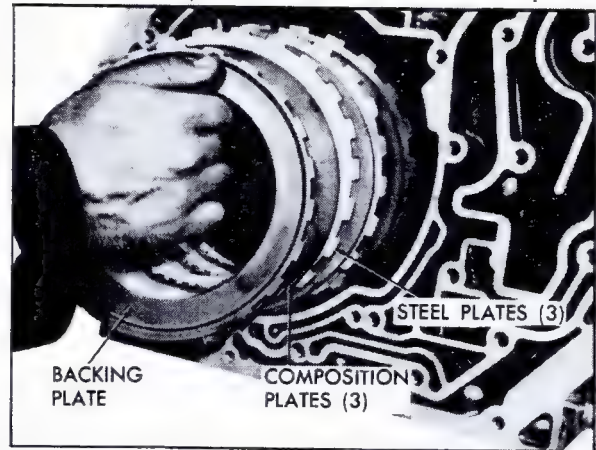

Fig. 7-194 Installing Intermediate Clutch Plates
i. Lubricate three steel and three composition intermediate clutch plates with transmission fluid and install clutch plates in transmission case, Fig. 7-194. Start with steel plate and alternate composition and steel plates.